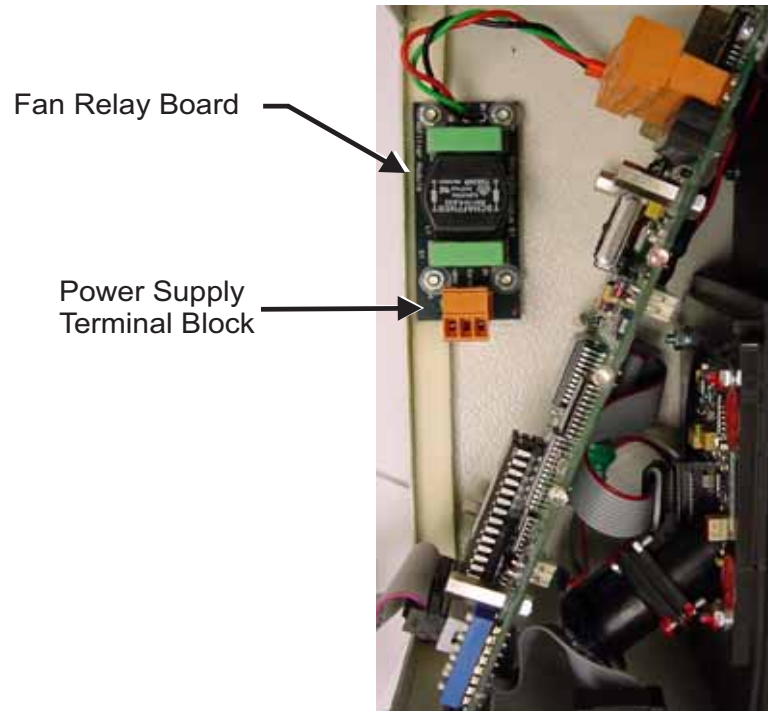

Figure 2-4. ASD-320 Power Supply Terminals
2. Locate the power supply terminal block, mounted on the small fan relay board (inside the Detector at the left of the unit). Refer to Figure 2-4 for the location of the power supply terminal block/fan relay board.